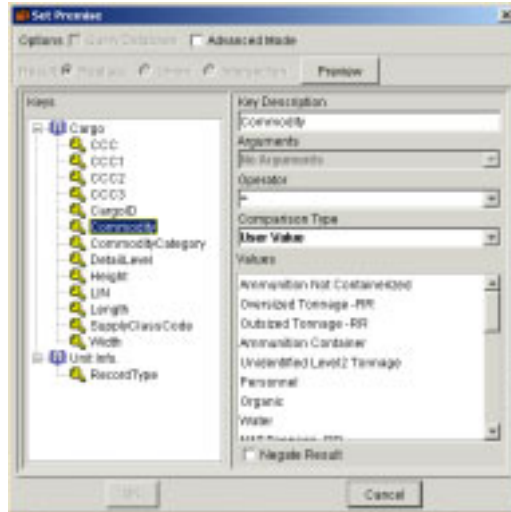

Figure 5.118 Set Premise Window
8. In the Keys panel, click the name of a requirement line number (RLN) attribute. The selected RLN attribute is highlighted, and the list boxes at the right display values for the selected attribute (Figure 5.118).